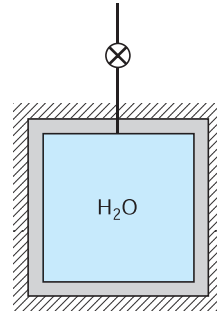

FIGURE P6.126
- 6.126** A 2-m^3 insulated vessel, shown in Fig. P6.126, contains saturated vapor steam at 4 MPa. A valve on the top of the tank is opened, and steam is allowed to escape. During the process any liquid formed collects at the bottom of the vessel, so only satu-